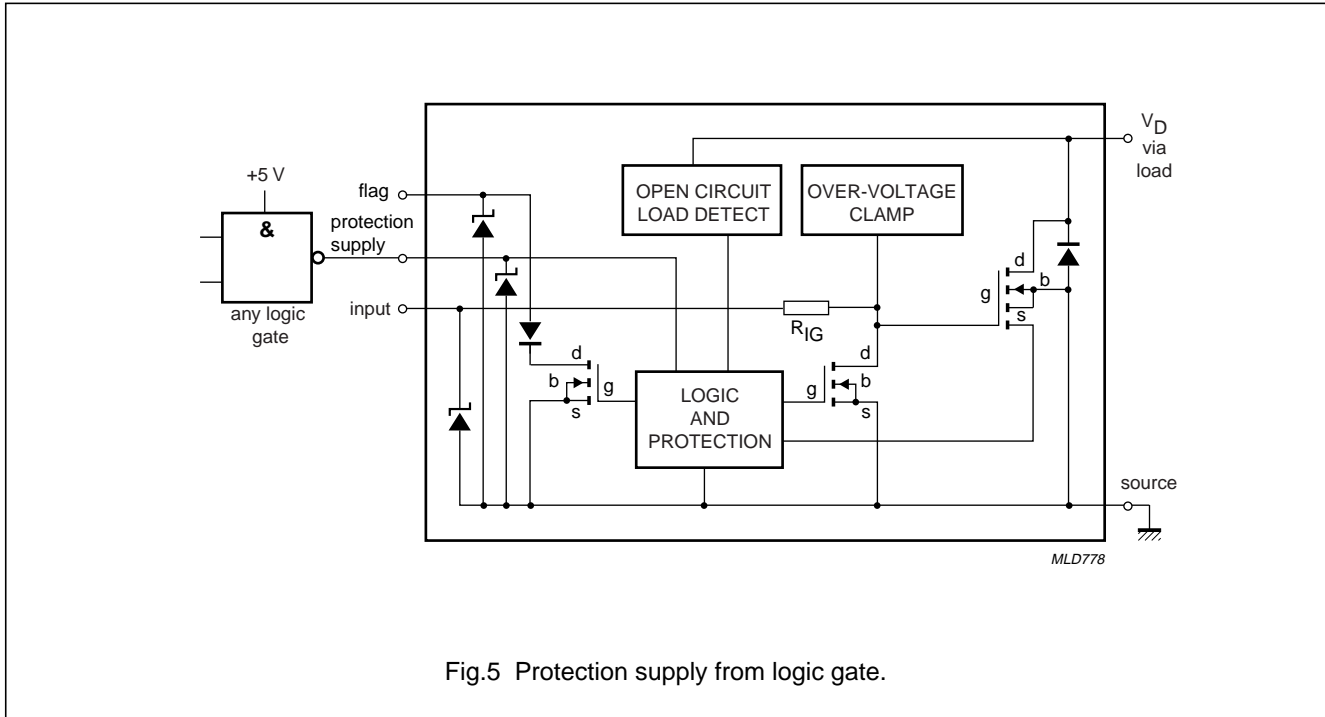

Fig.5 Protection supply from logic gate.
- The preferred driver is a logic gate; this will satisfy the protection supply current requirements and permit toggling low to reset (see Fig.5).